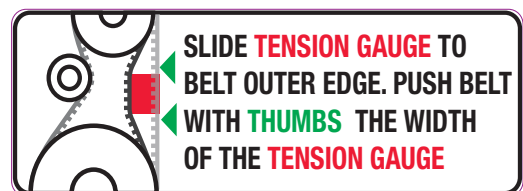

Figure 40
- **Recommended setting:** Required belt tension is 11 mm (7/16") of play, which corresponds to the width of the red tension gauge in the tensioner mechanism. See Figure 40.